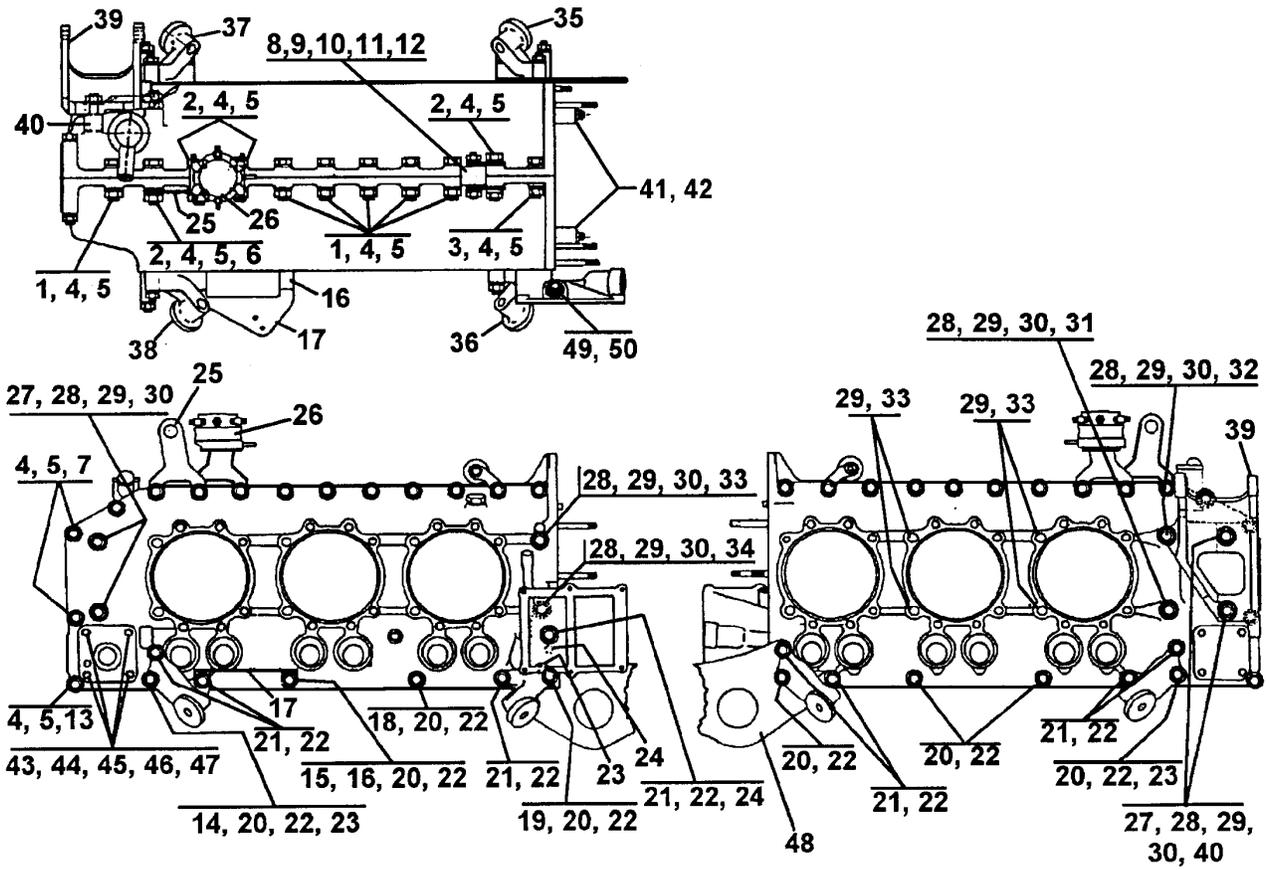

FIGURE 6-17. CRANKCASE ATTACHING PARTS
8. See Figure 6-17. Disconnect 1-3-5 side crankcase engine mounts from engine stand. Remove 1-3-5 side crankcase from engine stand and place on a work bench. Remove engine mount bracket (35), turbocharger support bracket (48), engine mount bracket (37), alternator support bracket (39) and spacers (40). Remove and discard all o-rings (23, 24) from 1-3-5 side crankcase.
NOMENCLATURE FOR FIGURE 6-17.